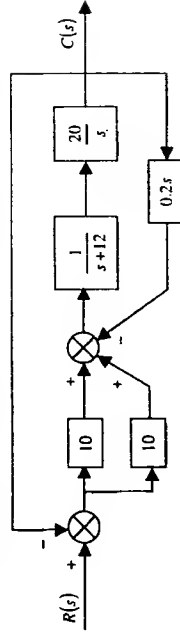

Figure 1
- Find the following for the system shown in Figure 1: